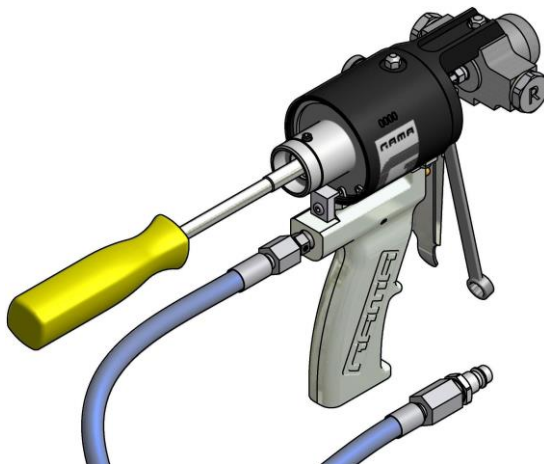
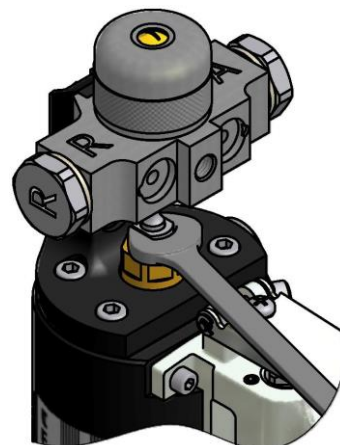

Figure. 15
Figure. 16
4. Insert the end of the socket wrench into the hexagon of the needle and insert a socket in the hexagon of the plunger shaft to prevent it from turning (see **Figure. 15** and **Figure. 16**). Turn anti-clockwise until the needle is completely removed from its housing.
16. Insert the tip of the socket wrench into the hexagon of the nut and insert a socket in the hexagon of the plunger shaft to prevent it from turning. Turn anti-clockwise until the needle is completely unscrewed from its housing (see **Figure. 15** and **Figure. 16** page 15).